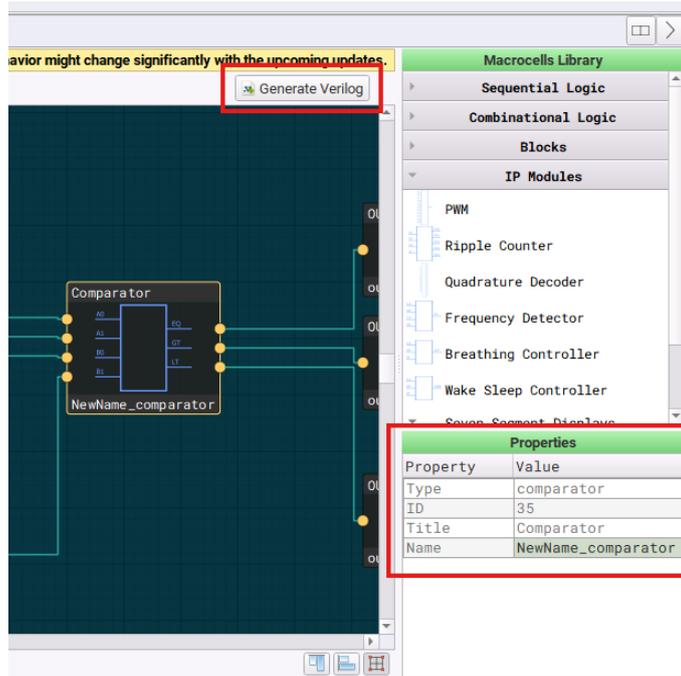

Figure 4. Macrocell Properties
- After the user has created the desired design, click on the *Generate Verilog* button on the right to automatically generate the Verilog code for the design created in Macrocell Editor (See Figure 4). The name of the generated Verilog code is by default *mcm_generated.v* and it's listed under Custom Code section of the Control panel.